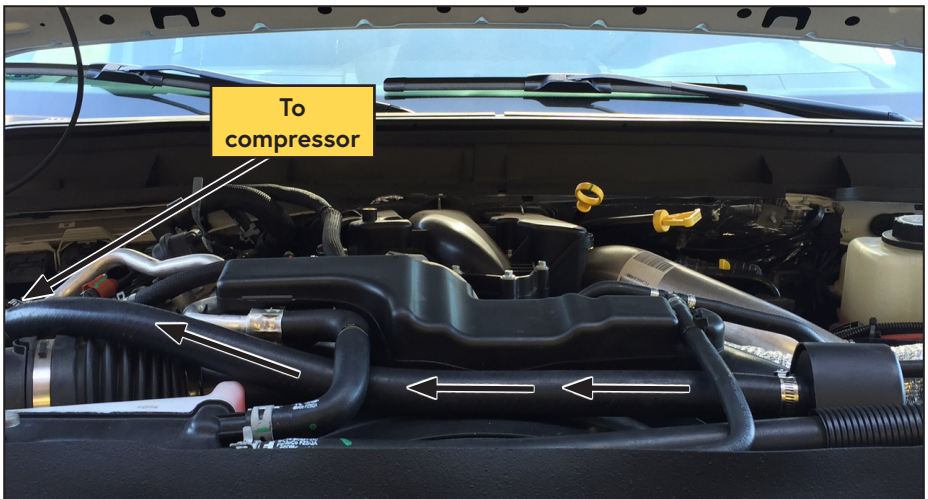

Figure 43 — Route inlet hose
- Route the intake hose to the compressor and secure it to the inlet spigot (Figure 43).